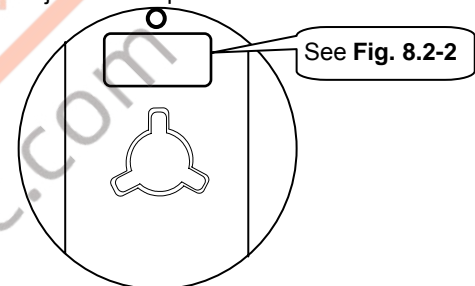

Fig. 8.2-1
1. Marking label information on reels includes (see Fig.8.2-1~2):